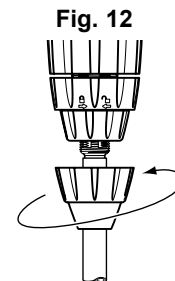

Fig. 12
- Push the tube onto the barbed fitting as far as it will go and screw up the nut by hand (Fig. 12).